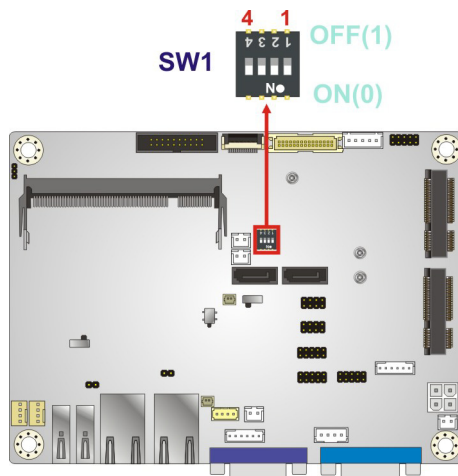

Figure 4-11: LVDS Panel Resolution Selection Switch Location
- Jumper Location: See **Figure 4-11**